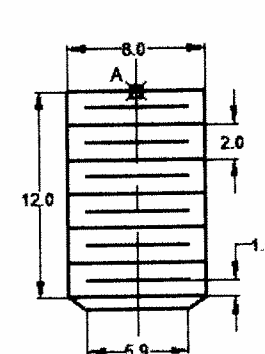

Figure 6-14a
- Create the thread block with point A selected as the base point, Figure 6-14a.